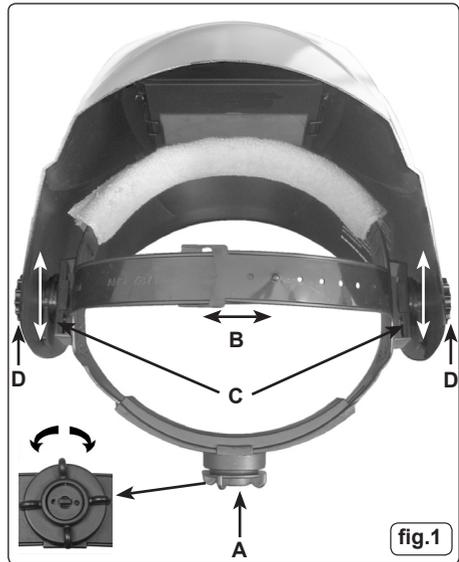

fig.1
The overall circumference of the headband can be made larger or smaller by pushing in and rotating the knob on the back of the headband (See adjustment 'A' in fig.1). This can be done whilst wearing the helmet and allows just the right tension to be set to keep the helmet firmly on the head without it being too tight.
4.3 If the headband is riding too high or too low on your head, adjust the strap which passes over the top of your head. To do this release the end of the band by pushing the locking pip out of the hole in the band. Slide the two portions of the band to a greater or lesser width as required and push the locking pip through the nearest hole (See adjustment 'B' in fig.1).
To adjust the distance between the helmet and your face in the down position loosen the tilt knobs (D) on either side of the helmet and slide it nearer to or further from your face. (See adjustment 'C' in fig.1) It is important that your eyes are each the same distance from the lens otherwise the darkening effect may appear uneven. Re-tighten the tilt knobs when adjustment is complete.